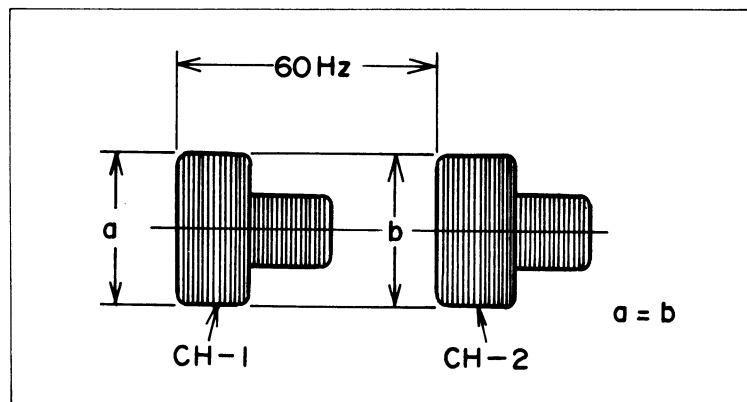

Fig. 5-20. P.B. color balance waveform
2. Channel Balance — Adjust R5 (P.B. Color Balance) on the Audio and Servo printed circuit board, so that the level of CH-1 and CH-2 are the same. See Fig. 5-20.